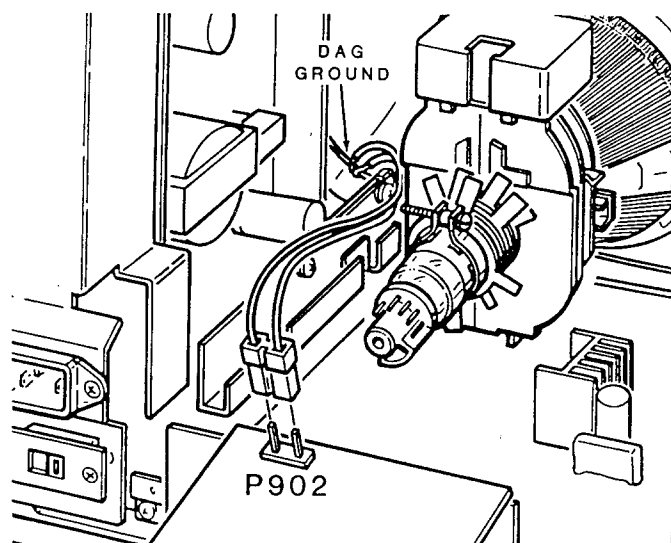

Figure 3-21. Disconnecting P902
5. Disconnect DAG ground connector P902 (2-pin, 2-wire) from the CRT drive board, as shown in Figure 3-21.